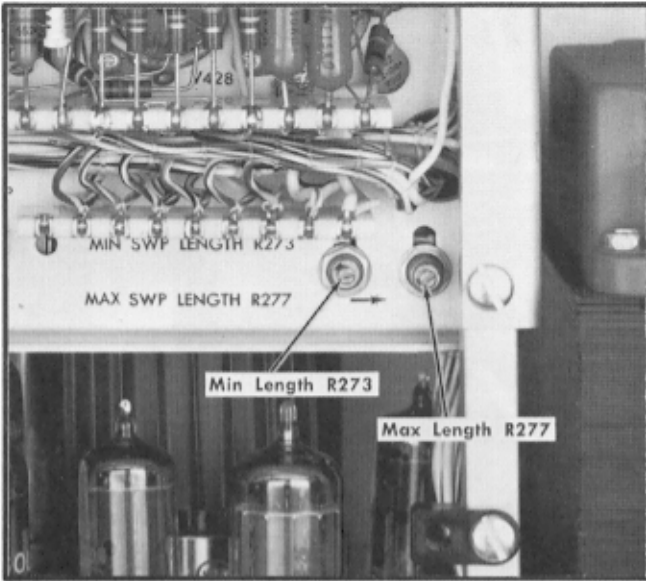

Fig. 6-25. Location of Sweep Length adjustments.
- c. Adjust Max Swp Length R277 (Fig. 6-25) for a sweep length of 10.5 cm.
- e. Adjust the Min Swp Length R273 (Fig. 6-25) for a sweep length of 3.5 cm.